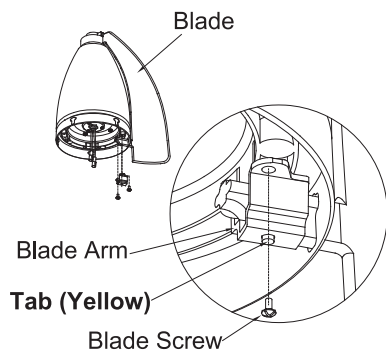

Fig. 9
Step 2. Carefully turn over the motor body with the bottom of motor facing up. Attach the blade arm to the flywheel and let the tab on the blade leg pass through the hole on the blade arm, as shown (Fig. 9). **Make sure yellow tab is visible through hole and metal bracket.** Align the two mounting holes on both side of blade arm with the holes on the flywheel and tighten them with truss head blade screws provided. Finally, tighten the two flat head blade screws in the ring. Repeat this procedure for the remaining Four (4) blades. (Fig. 9)